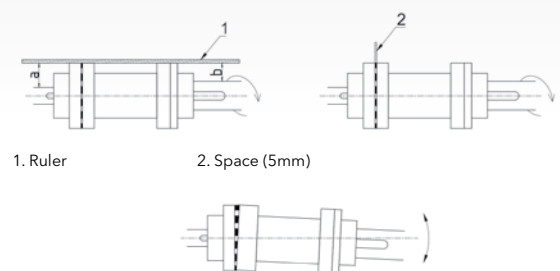

Figure 5
2. Place the ruler (1) axially on both coupling halves.
3. Leave the ruler (1) in this position and turn the coupling by hand.
- The radial and axial deviation between the two coupling halves must not exceed the values set by the manufacturer, during standstill as well as at operating temperature and under inlet pressure. Fig. 5